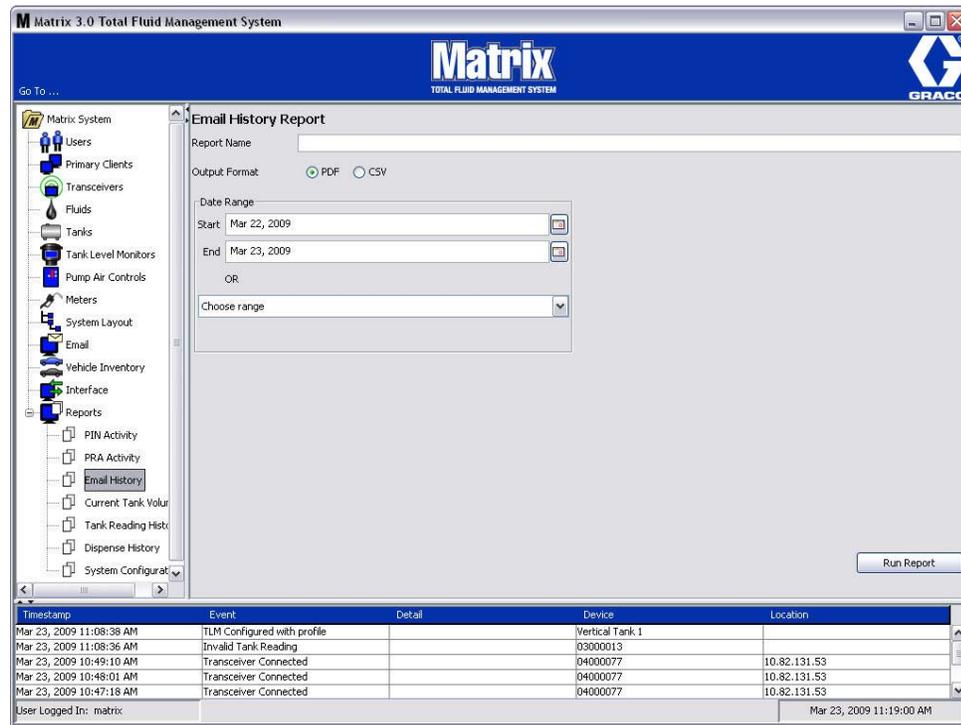

FIG. 216
- **Email History (FIG. 216)**